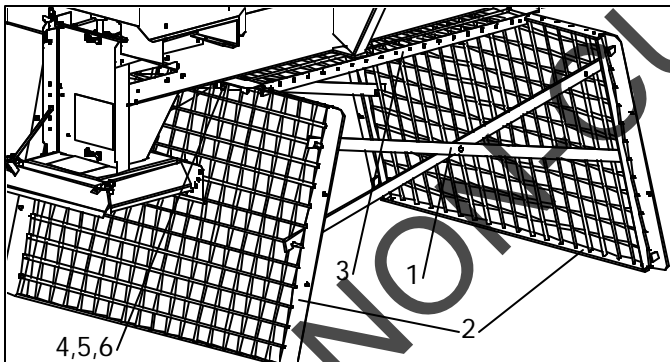

Figure 16 – Screen-N-Store
Repeat on other end. Flip screen assembly over and hook cross-support assemblies (1) over second and seventh rods of screens as shown in Figure 16. (Note holes in cross-supports go in upper position.)